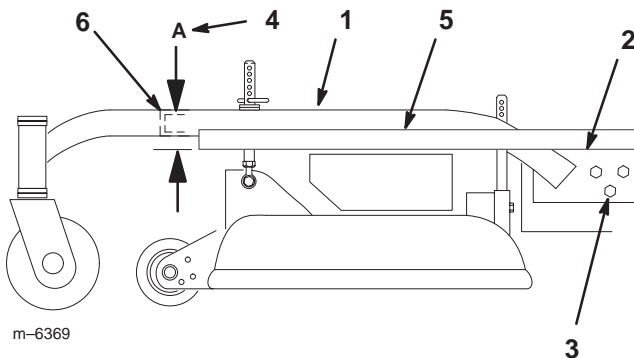

Figure 49
- Place a long straight edge on top of the engine deck as shown in figure 49.
- At the carrier frame cross tube, measure location **A** height (Fig. 49). This measurement must be 1–5/16 inch (33 mm), plus or minus a 1/4 inch (6 mm).
- Loosen the carrier frame mounting bolts on both sides of the machine (Fig. 49).
- Align the carrier frame and engine deck to match 1–5/16 inch (33 mm), plus or minus a 1/4 inch (6 mm) at location **A** (Fig. 49).